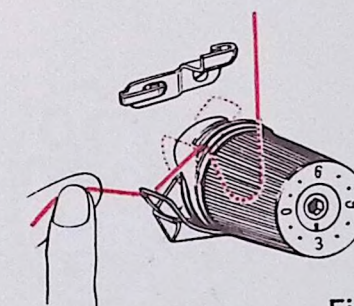

Fig. 2
can be slipped into the hook (See Fig. 1). When the thread is released, the spring wire loop will return to position (See Fig. 2) with thread in proper place. Release spool of thread and continue to thread machine exactly as shown. Needle must always be threaded in direction as shown in Fig. 3.
2. Wind thread around an empty bobbin several times as in Fig. 2.